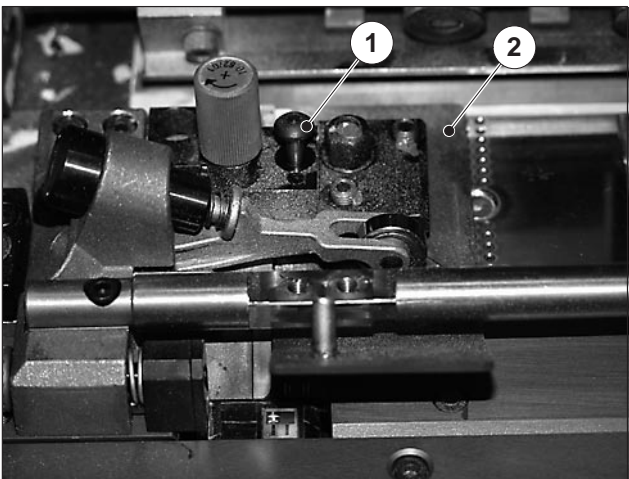

Fig. 68 Removing the retainer
4. Loosen the screw (Fig. 68/1) from the retainer. Pull the screw from the top and turn it at the same time in anti-clockwise direction until the screw is fixed at the upper position (Fig. 68/1).
5. Press the retainer (Fig. 68/2) down and out of the support.
1. Install the retainer from the bottom in the support (Fig. 68/2).
2. Turn the screw (Fig. 68/1) clockwise out of the fixed position and into the retainer.
3. Tighten the screw (Fig. 68/1).